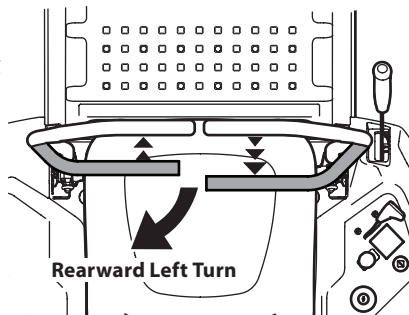

Figure 31
1. To turn to the left while traveling in reverse, move the left drive control lever forward of the right drive control lever. See Figure 31.